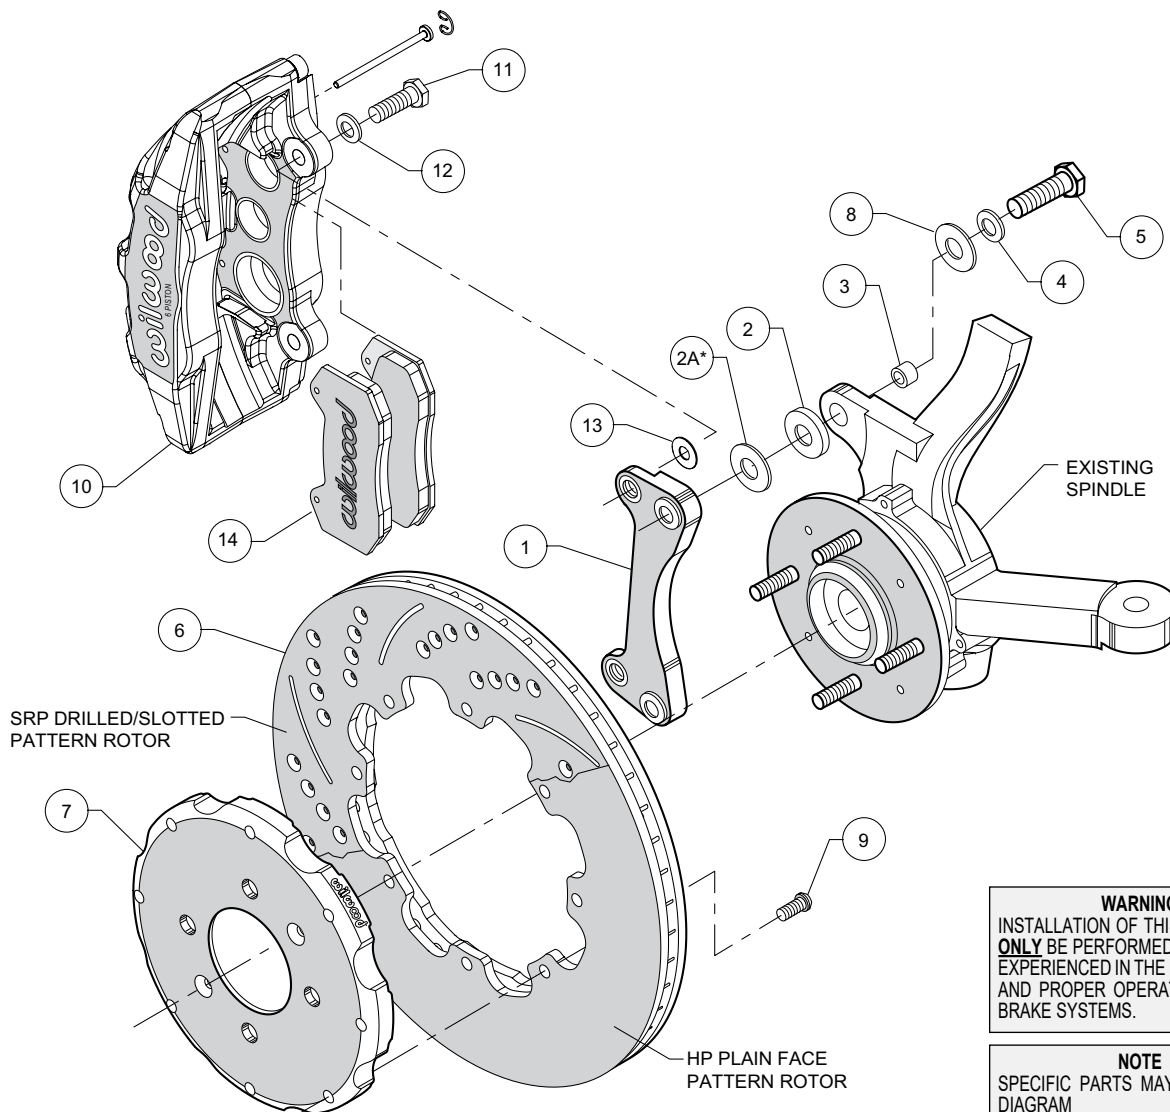

Figure 1. Typical Installation Configuration, Left Hand Application Shown
NOTE: Numbers in parenthesis refer to the parts list and Figure 1 on the preceding pages.
- Insert one sleeve (3) each into the holes on the top and bottom of the spindle “ears” where the OEM caliper bracket was removed. Apply red *Loctite*® 271 to the mounting bolt threads (5) before installation of the caliper mounting bracket (1). Install the bracket with the flanged heads of the clinch nuts facing outboard, as shown in Figure 1. Slide bolt (5) through washer (4) and shim (8) into the previously installed sleeve (3) from the backside of the spindle. Position .125 thick spacer (2) [and (2A) for 2001 Honda Civic only] between the spindle and the bracket. Torque bolts to 60 ft-lb..
- With the larger I.D. side of the rotor (6) facing away from the hat (7), attach rotor (6) to hat (7) using bolts (9) as shown in Figure 1. Using an alternating sequence, remove bolts (9) one at a time, apply red *Loctite*® 271 to the threads, and torque to 25 ft-lb.
- Remove the two pad retaining pins from the caliper (10) by carefully popping out the pin retaining clips and sliding out the pins. Insert the brake pads (14) into the caliper from the bottom, Figure 1, with the friction material facing the rotor. Secure the brake pads in place with the pad retaining pins and clips. Reinstall the caliper onto the caliper mounting bracket. Apply red *Loctite*® 271 to bolt threads (11), and torque to 40 ft-lb.